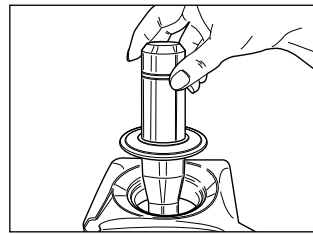

Fig. 5
- During use, it is possible to add foods into the goblet, by lifting out the filler cap (A) after having switched off the appliance. Press inserted food using the apposite presser (M) - Fig. 5.